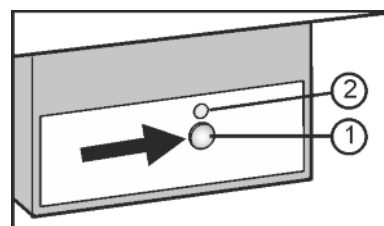

Fig. 23
- ▶ Press the On/Off button *Fig. 23 (2)* so that the LED *Fig. 23 (1)* shines.